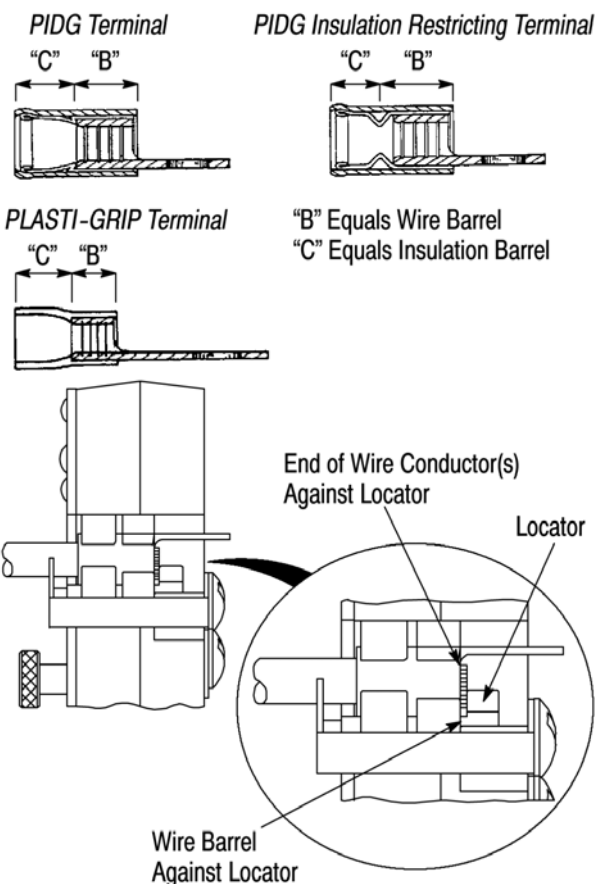

Figure 4
3. Place the terminal in the crimping chamber so that the wire barrel butts against the locator. Refer to Figure 4.